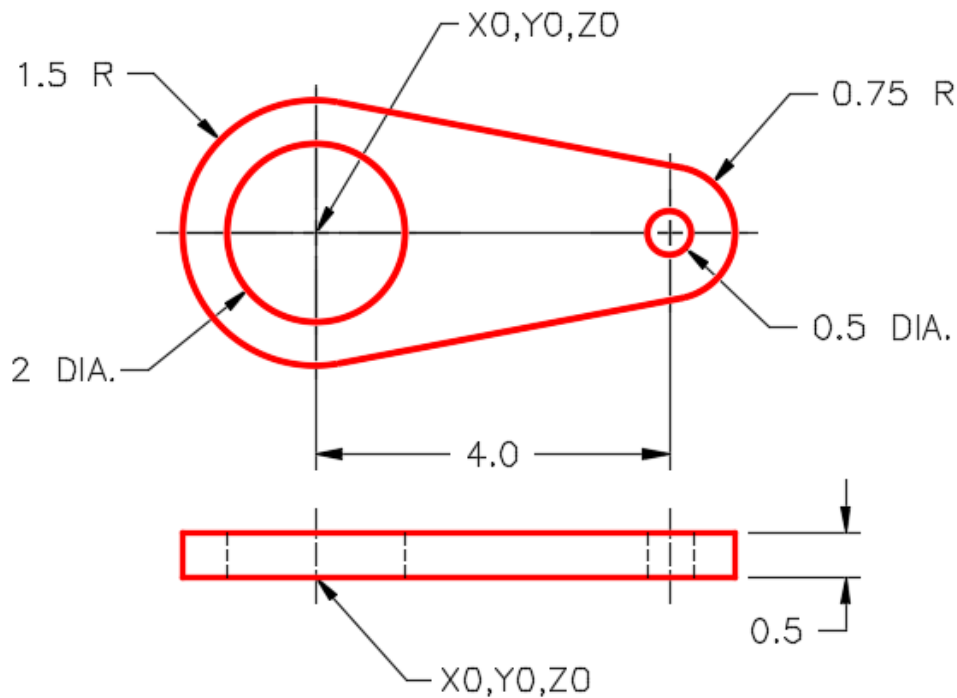

Figure Step 3A
Step 3 On layer: Model, draw a wireframe model of the object shown in the multiview drawing. (Figure Step 3A and 3B)